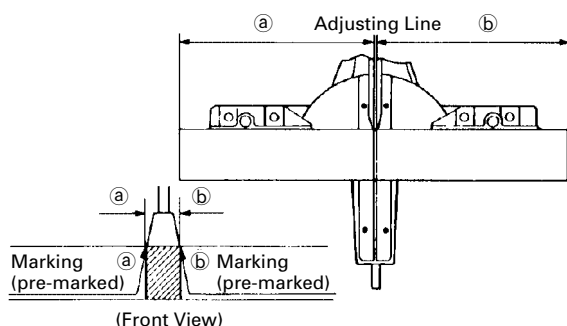

Fig. 20
- (1) As shown in Fig. 20 the width of the saw blade is the width of the cut. Therefore, slide the workpiece to the right (viewed from the operator's position) when length ⑥ is desired, or to the left when length ⑤ is desired.
- (2) Once the saw blade reaches maximum speed, push the handle down carefully until the saw blade approaches the workpiece.
- (3) Once the saw blade contacts the workpiece, push the handle down gradually to cut into the workpiece.
- (4) After cutting the workpiece to the desired depth, turn the power tool OFF and let the saw blade stop completely before raising the handle from the workpiece to return it to the full retract position.